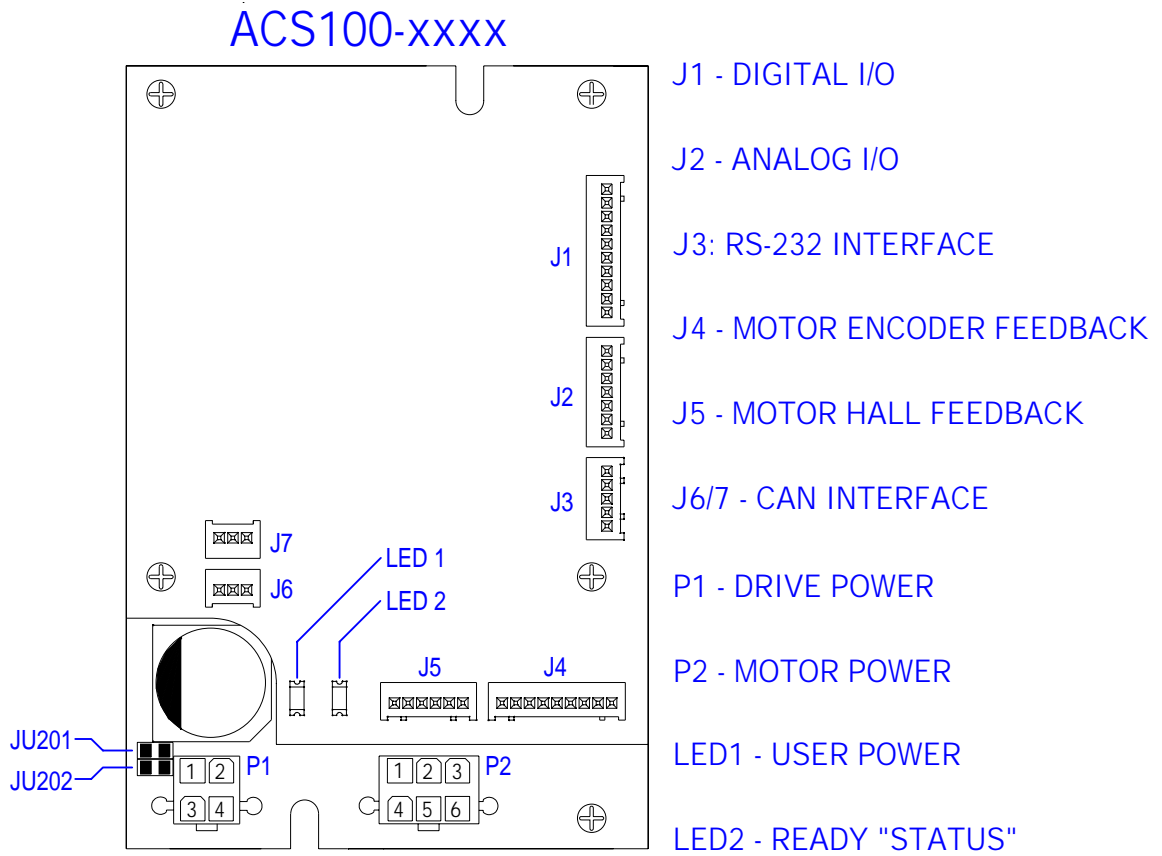

Figure 2: ACS100 Connector Layout
- ❖ Jumpers JU201 and JU202 are located next to the power input connector P1; See Figure 2.
Drive specific I/O operates independent of the user selected operating mode. Drive specific I/O signals have fixed functionality. These signals are used to interface the ACS100 to an outside control system. They provide signals for enabling, disabling, and monitoring the status of the ACS100. For visual reference to the ACS100 connectors, see Figure 2 below.